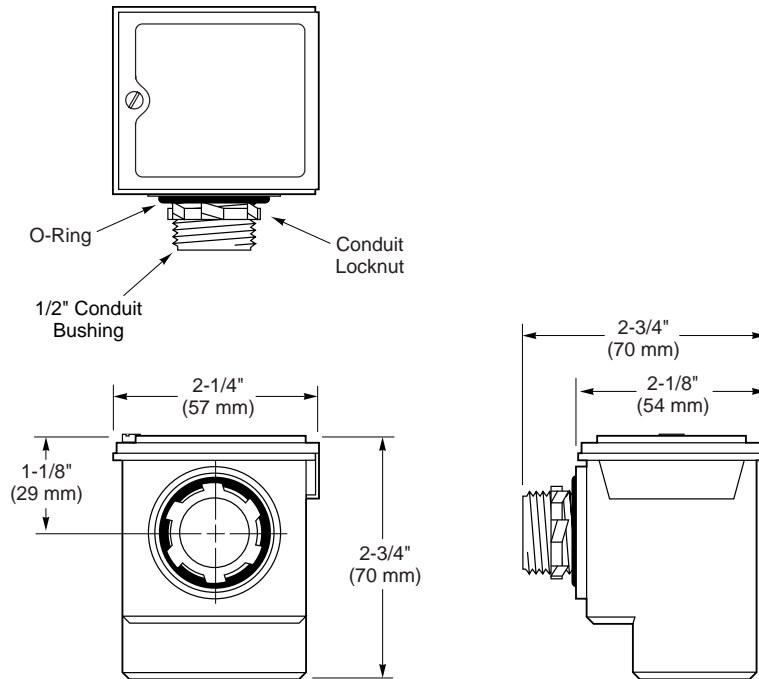

Figure-10 Mounting Dimensions of CP-9301 and CP-9302 Electronic Actuator Drives.
2. Determine on which side of the actuator the drive is to be mounted (Figure-5, Figure-6, and Figure-10). Remove the knockout on that side, adjacent to the low voltage wiring compartment.
3. Temporarily remove the locknut from the drive. Verify that the O-ring (Figure-6 and Figure-10) is fully seated on the drive's casing, and insert the drive's 1/2" conduit connector into the opening from which the knockout was removed.